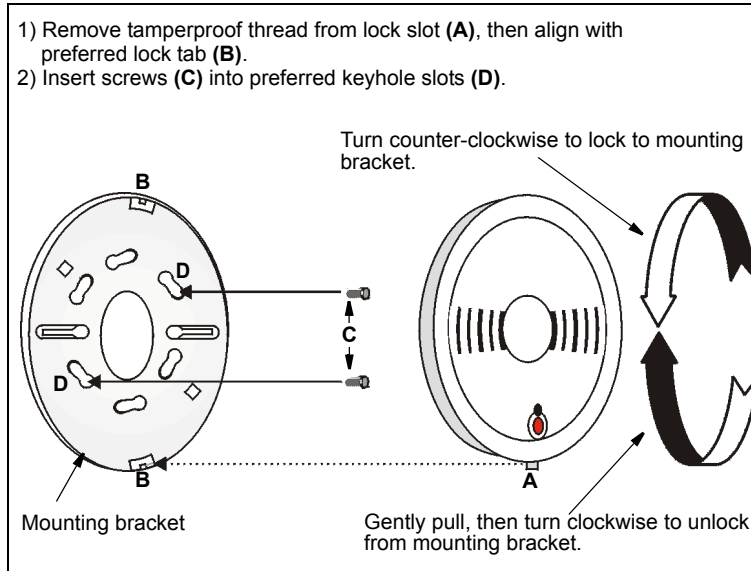

Figure 3: Single Residence with One Sleeping Area
- In any hallway outside bedroom areas. Additional detectors should be installed for every bedroom area as shown in Figure 3 on reverse.